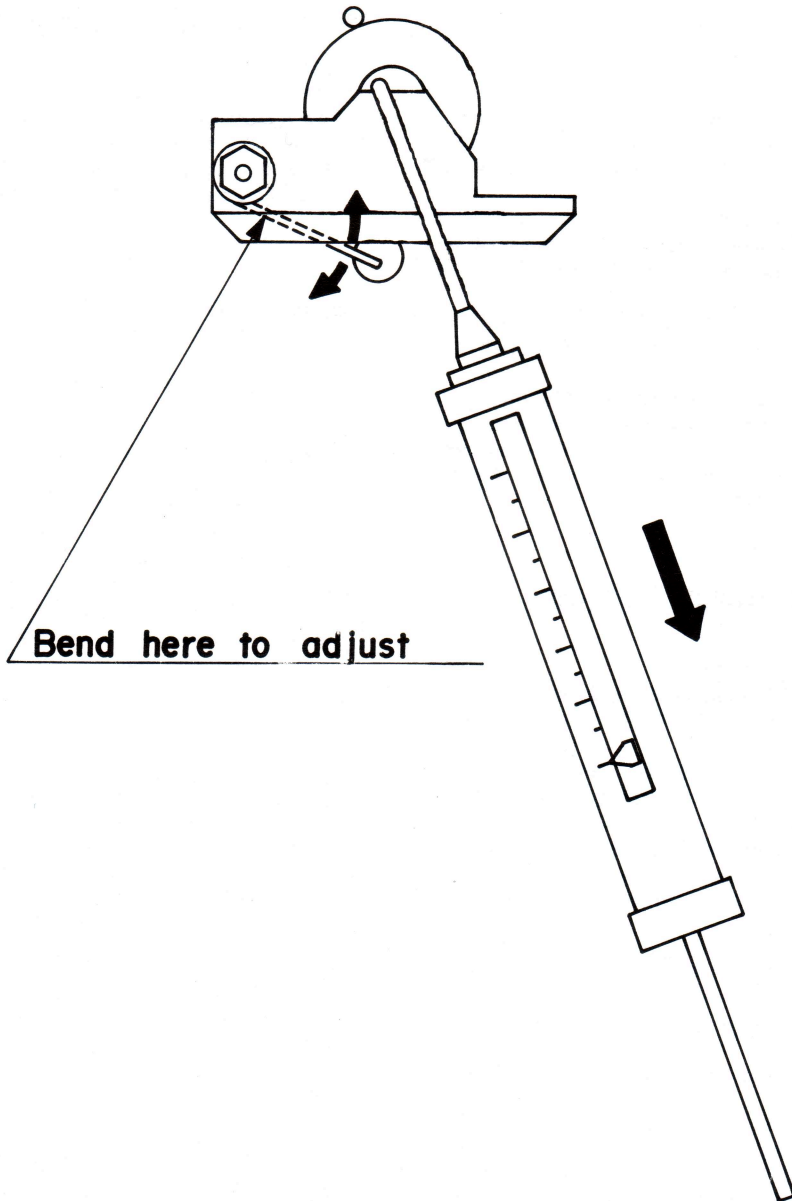

Fig. 1 Pinch Roller Pressure Measurement
2. Attach the spring scale to the edge of the pinch roller assembly (B 1-18) as shown (fig. 1).